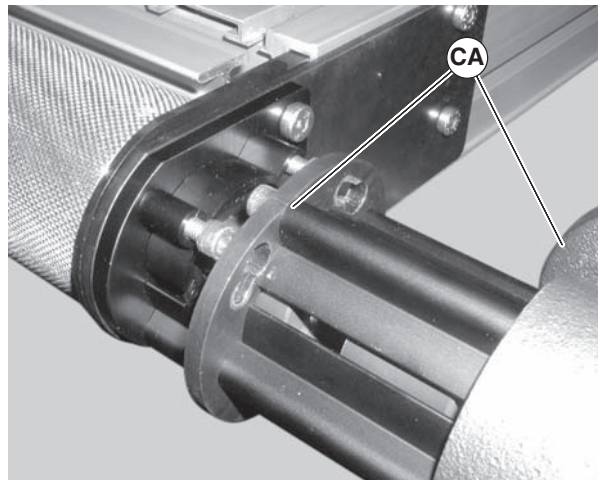

Figure 65
- c. Rotate and remove the gear motor and guard assembly (Figure 65, item CA).